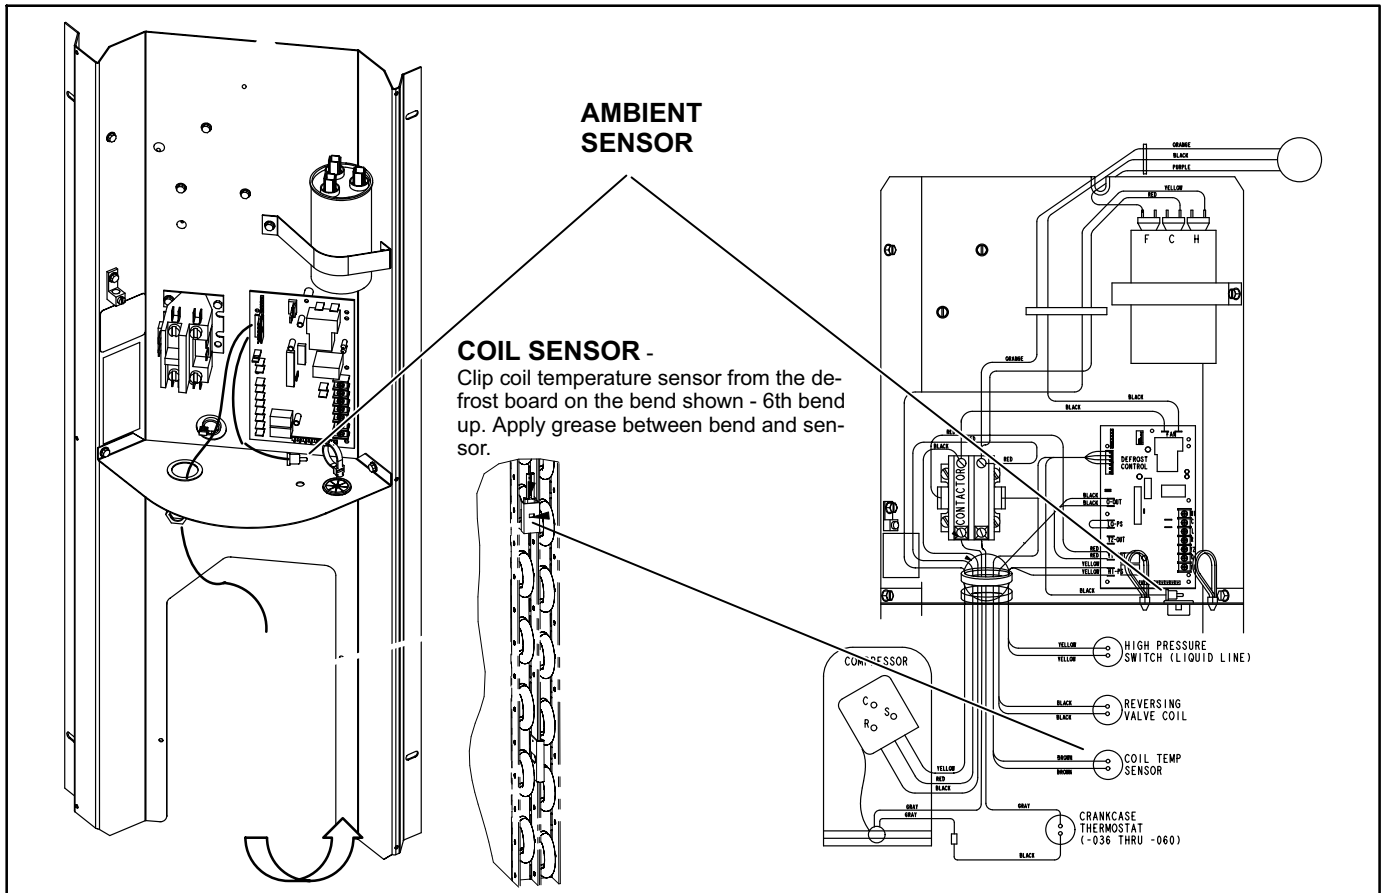

FIGURE 6
**Coil Sensor**—The coil temperature sensor (shown in figure 6) considers outdoor temperatures below -35°F (-37°C) or above 120°F (48°C) as a fault. If the coil temperature sensor is detected as being open, shorted or out of the temperature range of the sensor, the board will not perform demand or time/temperature defrost operation and will display the appropriate fault code. Heating and cooling operation will be allowed in this fault condition.
**Ambient Sensor**—The ambient sensor (shown in figure 6) considers outdoor temperatures below  $-35^{\circ}\text{F}$  ( $-37^{\circ}\text{C}$ ) or above  $120^{\circ}\text{F}$  ( $48^{\circ}\text{C}$ ) as a fault. If the ambient sensor is detected as being open, shorted or out of the temperature range of the sensor, the control will not perform demand defrost operation. The control will revert to time/temperature defrost operation and will display the appropriate fault code. Heating and cooling operation will be allowed in this fault condition.